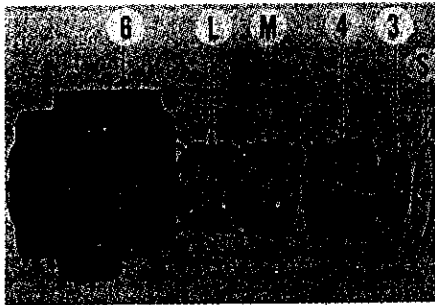

Fig. 31—Control valve housing partially disassembled, showing location of bushing sleeves and O-ring seals.
Examine all parts for wear or scoring and make sure parts are thoroughly cleaned. Renew all seals, gaskets and O-rings when unit is disassembled, as all parts are under system pressure. O-rings are located on piston guide peg (13); and between bushing sleeves in control valve housing as shown in Fig. 31. Carefully push bushings out top end of housing. Seal (3) must be installed from underside (chamfered) end of bushing sleeve (4), using Special Tool SW23/2 which applies pressure in the groove between the two seal lips. Coat sealing O-rings sparingly with a suitable lubricant and install carefully using Fig. 31 as a guide.